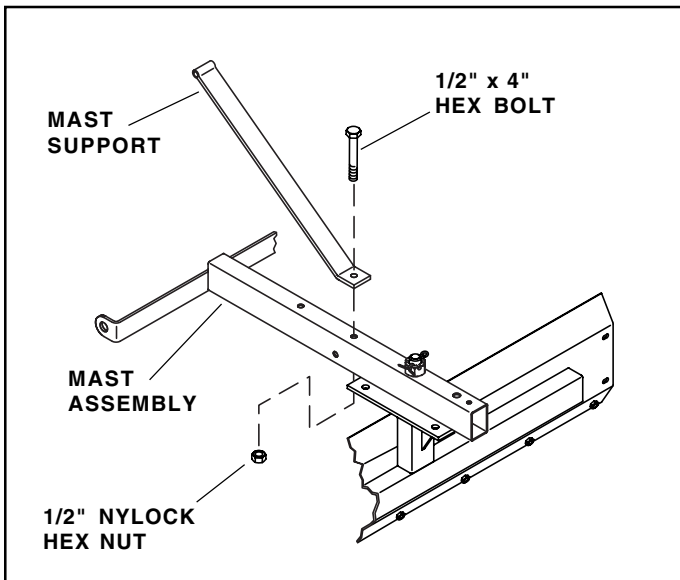

FIGURE 4
4. Attach the mast support to the hole in the mast assembly just in front of the threaded stud. Use a 1/2" x 4" hex bolt and 1/2" Nylock hex nut installed so that the nut is on the bottom side of the mast assembly. **Do not tighten yet.** See figure 4.